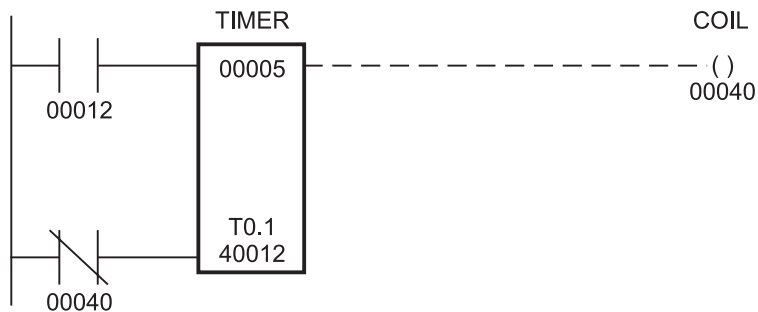

Figure 4-4
6. **Modify the timer register. See Figure 4-4.**